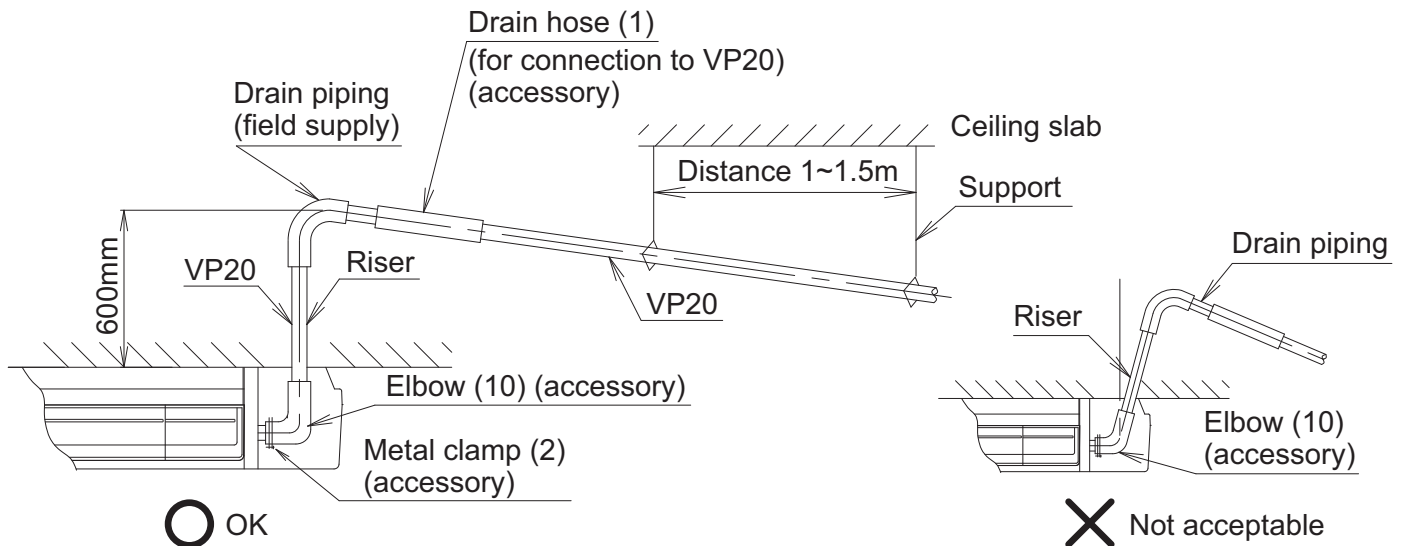

Fig. 29
- Install supports at a distance of 1 to 1.5m so that the piping may not deflect. (Refer to Fig. 29)
- Install the drain riser vertically. (Refer to Fig. 29)